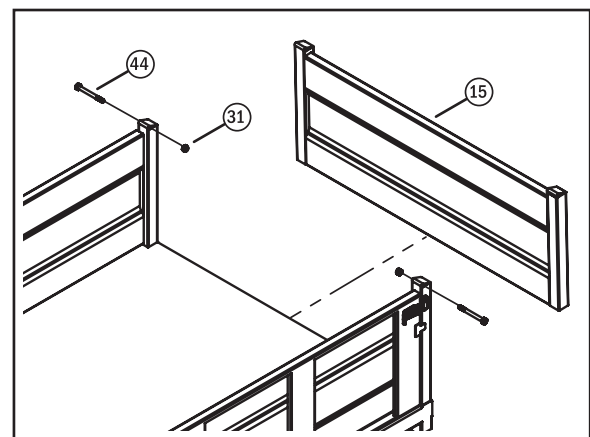

Fig. 18
Step 19: Install the Tailgate onto the Bed. Install the Tailgate (15) as shown in Fig. 18. Use the two M10 x 100 Bolts (44), with the head on the outside, and two M10 Locking Nuts (31) to attach the tailgate. Tighten only so the nut touches the inner bracket of the tailgate. Because these bolts act as a pivot point for the bed, do not over-tighten.